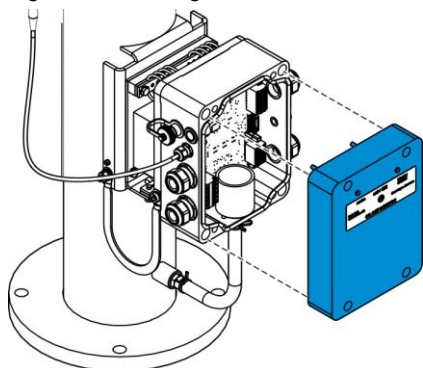

Fig. 74: Removing the housing cover
2. Remove the housing cover (Fig. 74).